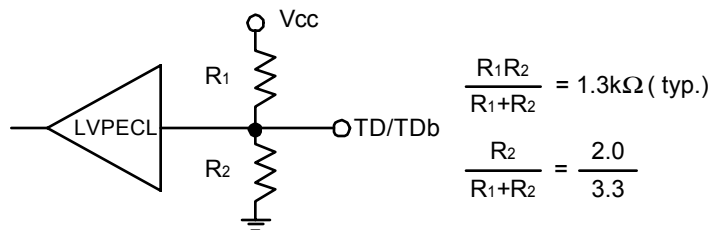

Figure 4. Internal Bias of Input Terminal
6. Input Terminal is biased internally, as shown in the figure4.